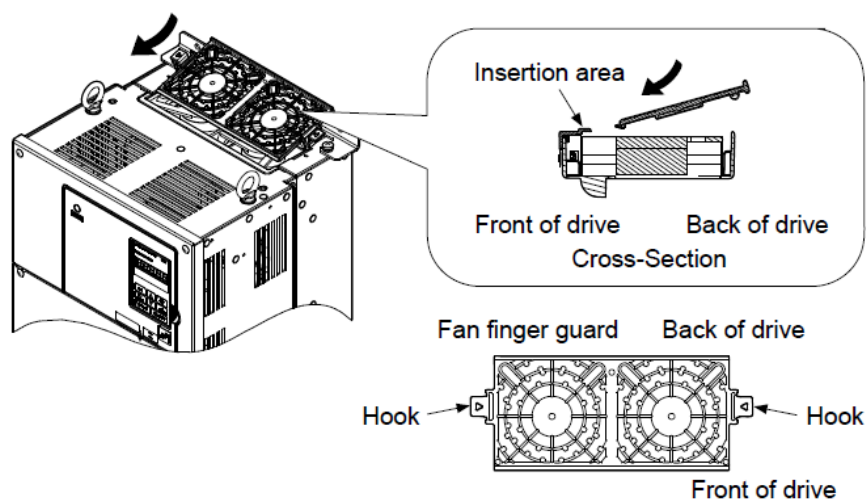

FIGURE 9-15 VFD Fan Finger Guard Install
5. Reinstall the fan finger guard per Figure 9-15.